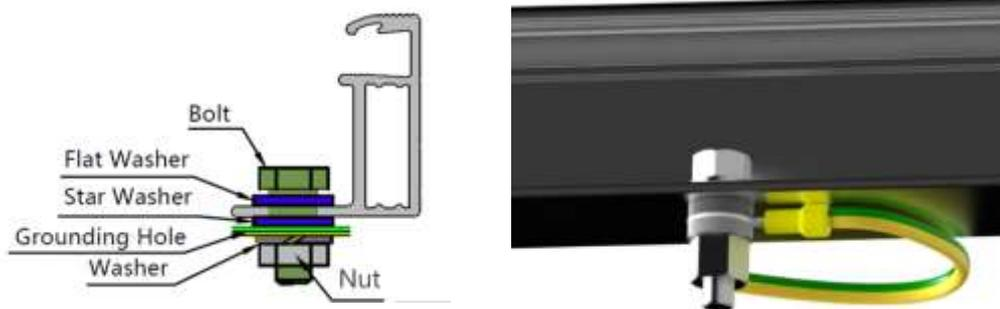

Figure 11. Grounding hole with bolts
- There are grounding holes with a diameter of 4mm on the long side of the back frame of the module, by the edge part. The grounding hole on the frame is marked with typical grounding symbol (\equiv) according to IEC 61730-1:2023 standard. These holes can only be used for grounding with bolts, so cannot be used for module installation. This method includes bolt, flat washer, star washer, washer and nut (see Figure 11) . The bolts should be tightened when grounding is installed. The frame of the module must not be punched with additional holes and no damage should be done to the module frame or the grounding wire.